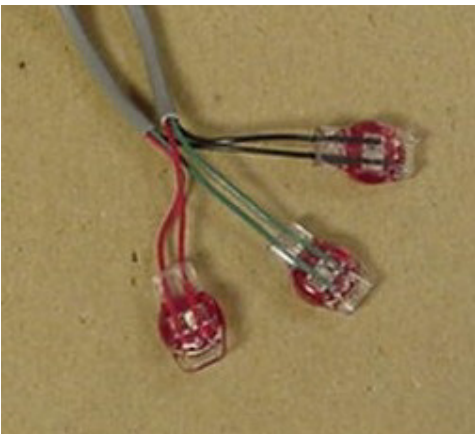

Figure 40 Three Color Wires Connected
- 8 Repeat steps two through six for each color wire. See Figure 40.